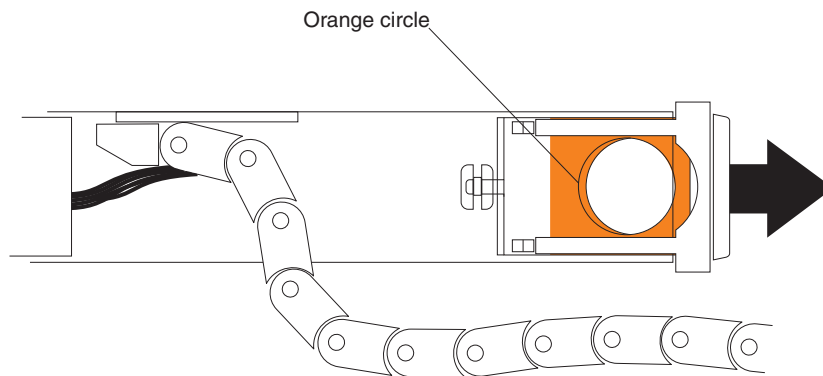

Figure 85. Horizontal mounting bracket that connects to the drive drawer
- d. Disconnect the right cable chain mounting bracket from the drive drawer. Hold the orange handle (see Figure 85), and pull the mounting bracket completely out of the drive enclosure. Remove the right cable chain.